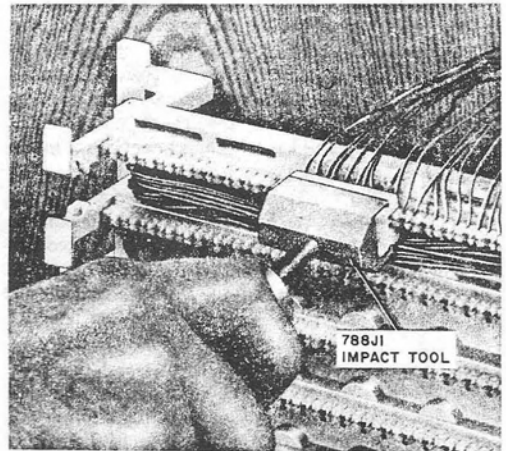

Fig. 13—Seating and Trimming Conductors
3.05 Dress the cable conductors in the wiring slot of the wiring block, then using the 788J impact tool, seat and cut the conductors at the edge of the index strip (Fig. 13). *Exercise care to prevent cutting wrong side. Remove cut conductors and check the index strip to assure that no short pieces of the cut conductors are wedged in the wiring slots preventing a solid connection when the connecting blocks are seated.*